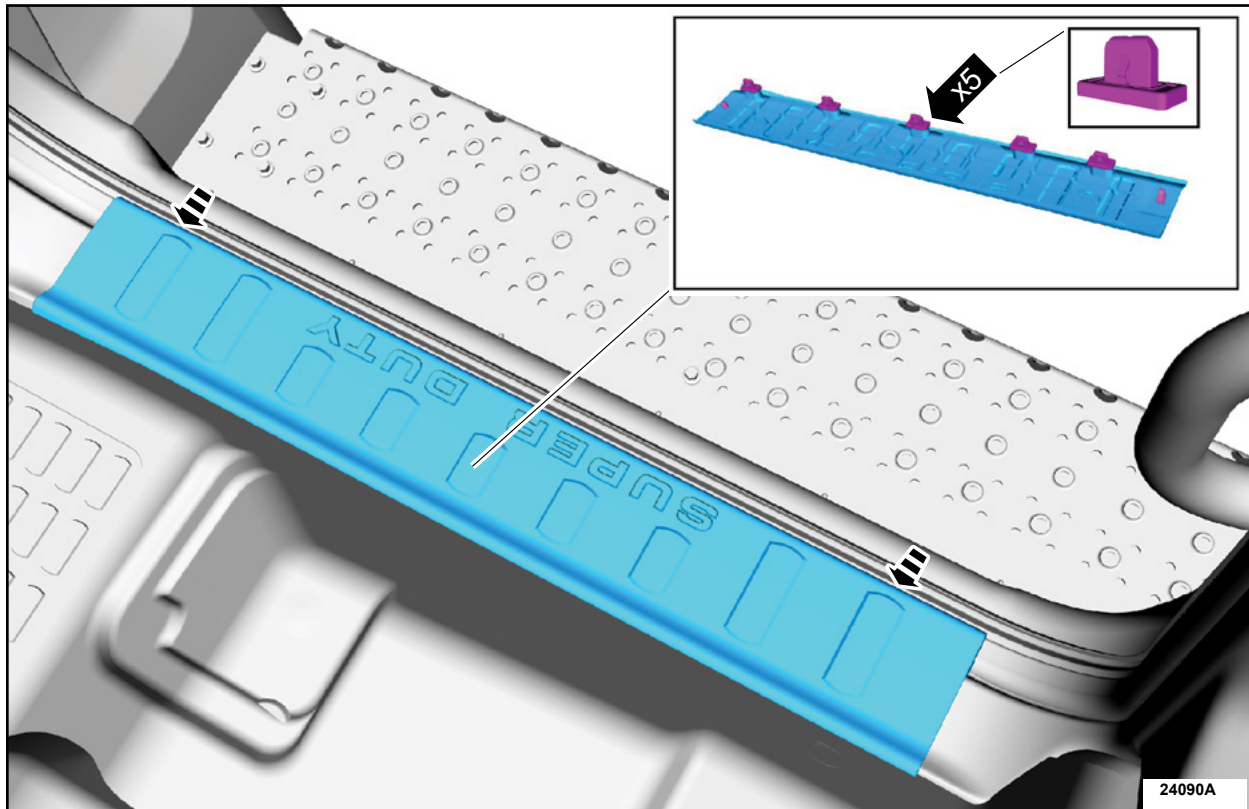

FIGURE 1
1. Release the clips and remove the passenger side scuff plate. See Figure 1.